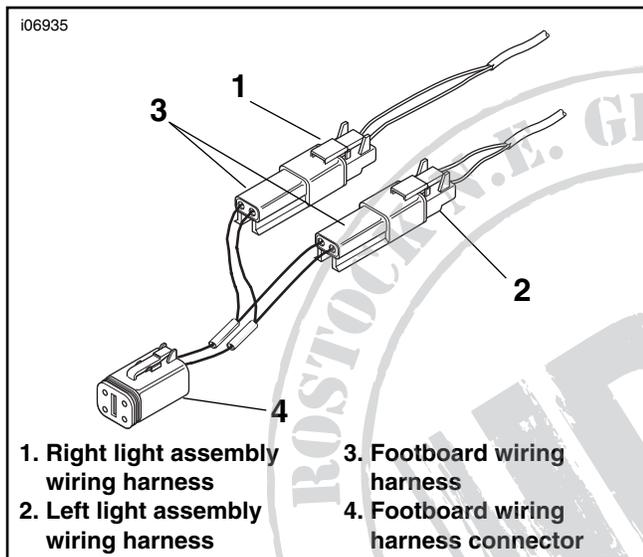

Figure 2. Electrical Connections – All 1994 and Later Touring Models
1. See Figure 2. Plug the right (1) and left (2) light assembly wiring harnesses into the footboard wiring harness (3) supplied in the kit.
2. Connect the footboard wiring harness connector (4) into the accessory plug located under the seat. Proceed to FINAL ASSEMBLY.